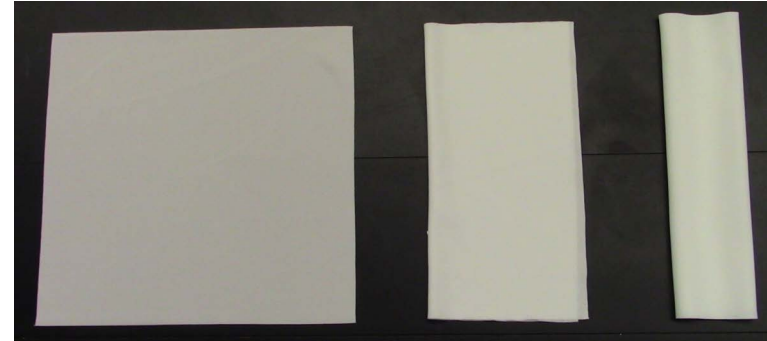

Figure 4-2 Three stages of folding wipes
5. Fold a lint-free wipe in half, and in half again, Figure 4-2.
12. Fold a **DRY**, lint-free wipe in half, and half again as described earlier, Figure 4-2.